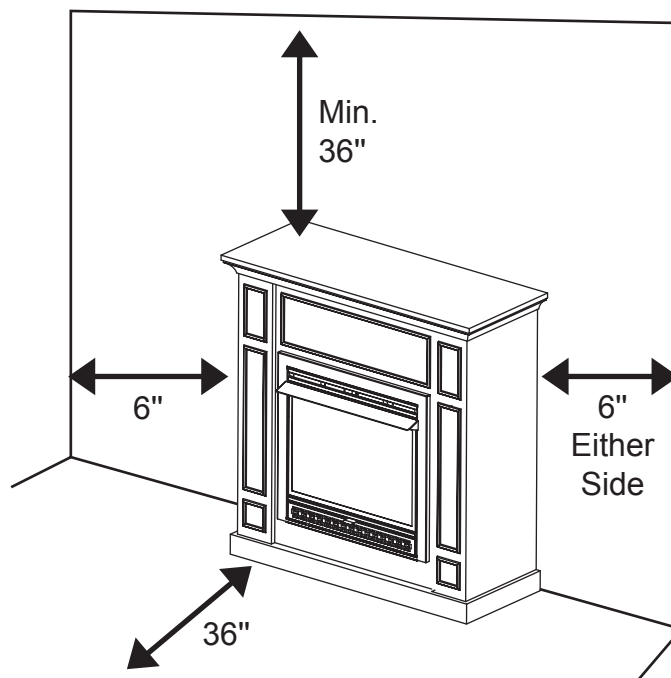

Fig. 6 - Minimum Clearance to Combustible Material
IMPORTANT: Maintain the minimum clearances shown in Figure 6 on page 14. If you can, provide greater clearances from floor, ceiling and adjoining wall.
A. Clearances from the side of the fireplace cabinet to any combustible material and wall should follow diagram in Figure 6.